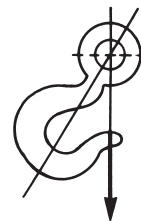

Figure 24-17: Point-Loading Reduces Hook Capacity
- Never point-load a hook unless it is designed and rated for such use (Figure 24-17).